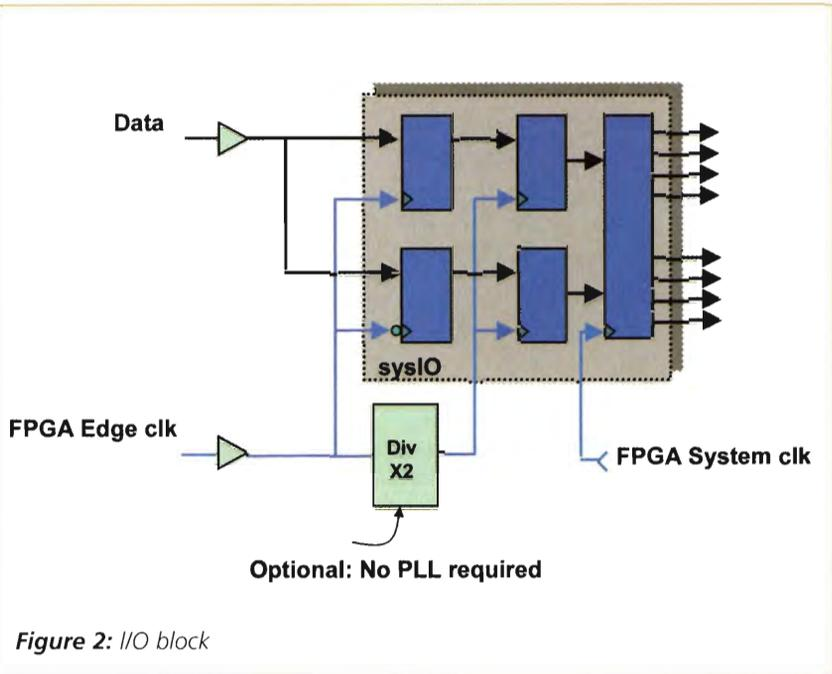

Figure 2: I/O block
The LatticeSC I/Os contains five blocks (Figure 2): input register block, output register block, tri-state register block, update block and a control logic block. These blocks contain registers for both DDR data transfer and the necessary clock and selection logic. The input register block also contains delay elements and registers that can be used to condition signals before they are passed to the FPGA. The delay block allows users to align signals; it uses four blocks of 32 tapped delay lines to obtain coarse and fine delay resolution. These delays can be adjusted automatically via DLLs because the delay line in this block matches the delay line that is used in the 12 on-chip DLLs.
**Figure 2:** Modules from the Synplify DSP block-set and the Simulink FDA tool are used to implement the sampling rate converter. Verification is also performed using Simulink block-set elements